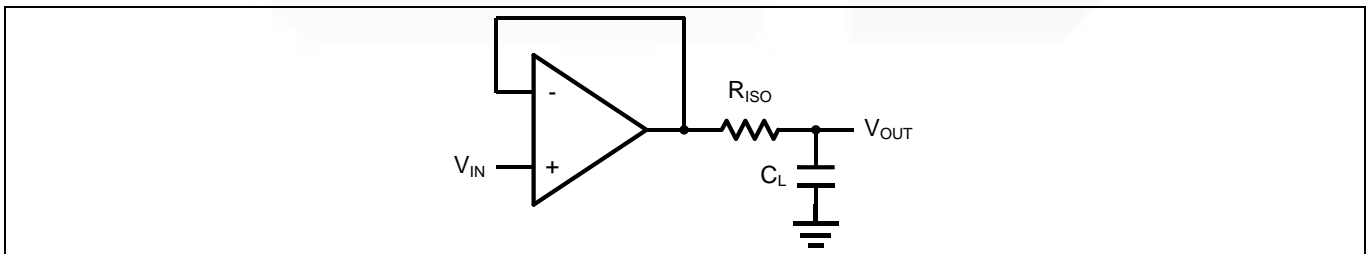
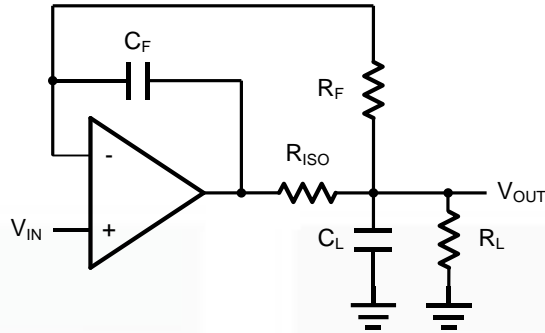

Figure 2. Indirectly Driving a Capacitive Load Using Isolation Resistor
Figure 3. Indirectly Driving a Capacitive Load with DC Accuracy
The GS872X family is optimized for bandwidth and speed, not for driving capacitive loads. Output capacitance will create a pole in the amplifier's feedback path, leading to excessive peaking and potential oscillation. If dealing with load capacitance is a requirement of the application, the two strategies to consider are (1) using a small resistor in series with the amplifier's output and the load capacitance and (2) reducing the bandwidth of the amplifier's feedback loop by increasing the overall noise gain. Figure 2. shows a unity gain follower using the series resistor strategy. The resistor isolates the output from the capacitance and, more importantly, creates a zero in the feedback path that compensates for the pole created by the output capacitance.
The circuit in Figure 3 is an improvement to the one in Figure 2. R_F provides the DC accuracy by feed-forward the V_{IN} to R_L . C_F and R_{ISO} serve to counteract the loss of phase margin by feeding the high frequency component of the output signal back to the amplifier's inverting input, thereby preserving the phase margin in the overall feedback loop. Capacitive drive can be increased by increasing the value of C_F . This in turn will slow down the pulse response.